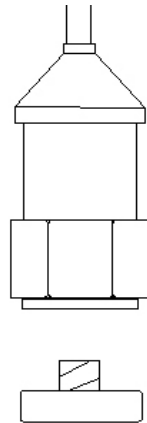
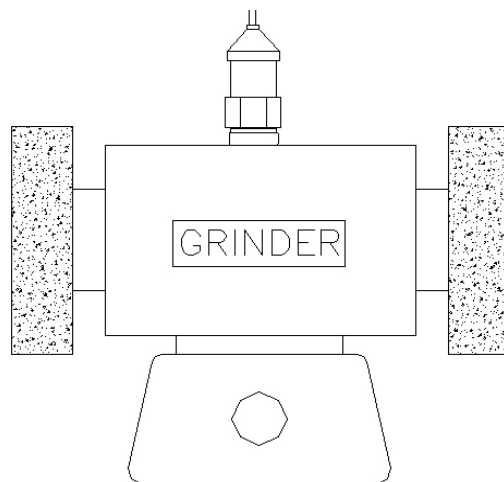

Fig. 3
Fig. 4
5) If the surface material of measuring article is the ferrous material, connect " Vibration sensor " (3-13, Fig. 1) with the " Magnetic base " (3-14), refer Fig. 3. Put the whole unit (Vibration sensor & Magnetic base) to the surface of measuring article, refer Fig. 4.